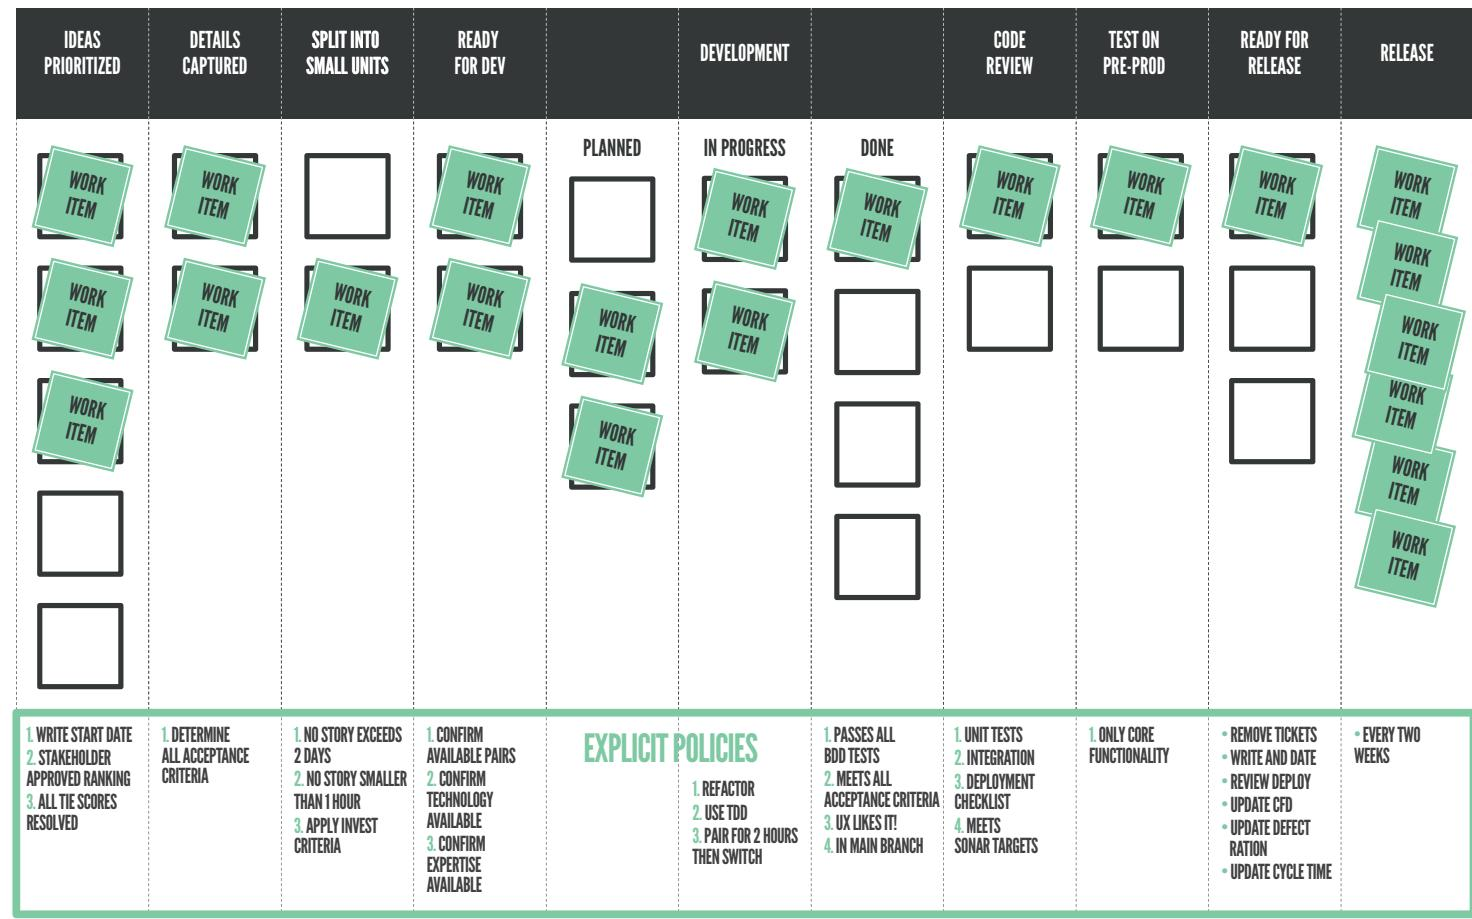

Figure 8 Explicit Policies
No doubt you already have quality assurance (QA) policies in place, so that is our starting point. In Agile circles, this is called “Definition of Done.” The next step is to add these policies explicitly to the Kanban board. Your Kanban board should then begin to look something like that featured in Figure 8.